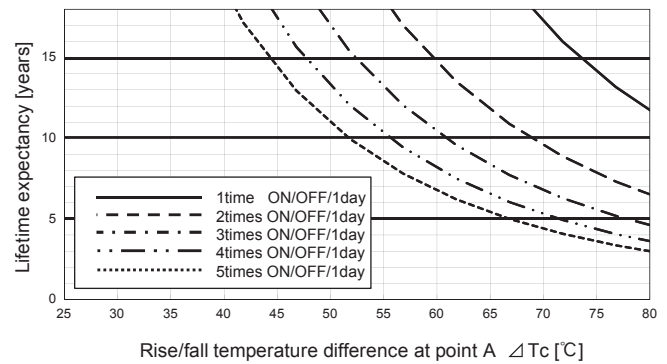
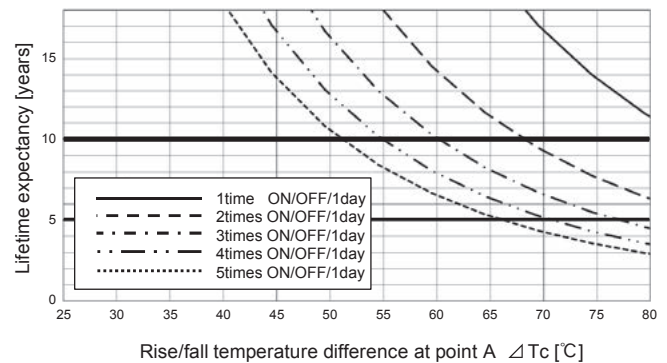
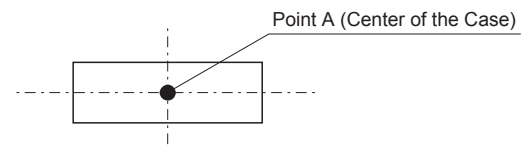

Fig.10.4 Lifetime expectancy against rise/fall temperature difference (MG6)
Fig.10.5 Lifetime expectancy against rise/fall temperature difference (MG10)
Fig.10.6 Temperature Measuring Point on the case (Top View)
■ Product lifetime expectancy depends on case temperature difference (T_c) and number of cycling in a day is shown in Fig.10.4, Fig.10.5 (It is calculated based on our accelerated process test result.) If case temperature changes frequently by changing output load factor etc., the above the lifetime expectancy design should be applied as well. And point A which is shown in Fig.10.6 must keep below 105°C.
■ The warranty period is basically 10 years, however it depends on the lifetime expectancy which is shown in Fig.10.4, Fig.10.5 if it is less than 10 years.